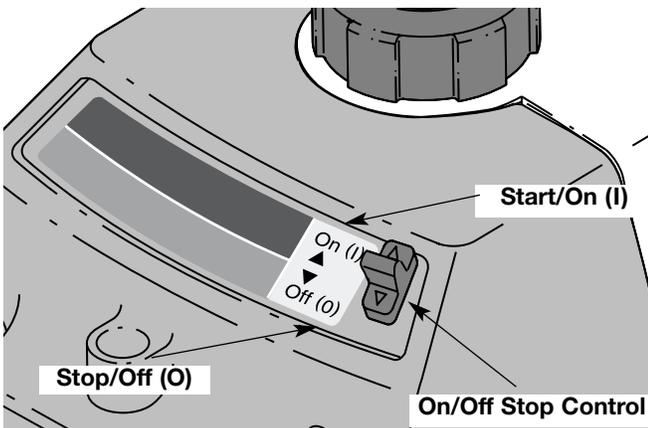

Figure 7
2. Put the On/Off Stop Control in the START (I) position. See Figure 7.
NOTE: Choking is unnecessary when starting a warm engine. Put the On/Off Stop Control in the START (I) position and start in PARTIAL Choke position (B |↘|). See Figures 7 and 8.